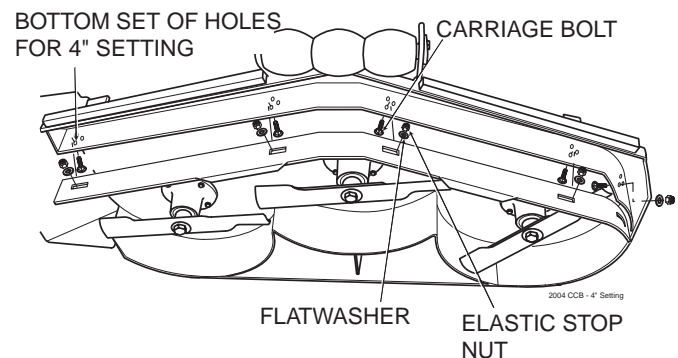

Figure 6-11. 4" Custom-Cut Baffle Position
- C. 4" Position (factory setting) - baffle is installed using the bottom set of holes on the front baffle welded inside the cutter deck. (See Figure 6.11). Placing the baffle in the 4" setting will enhance fall cutting (leaf pickup) and reduce cutter deck "blowout".